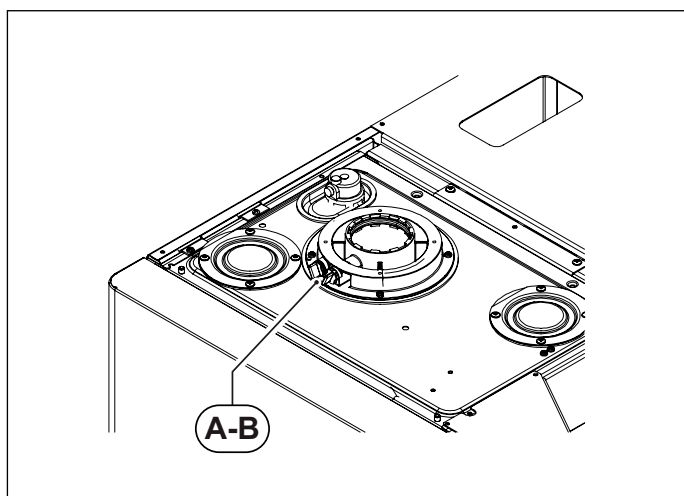
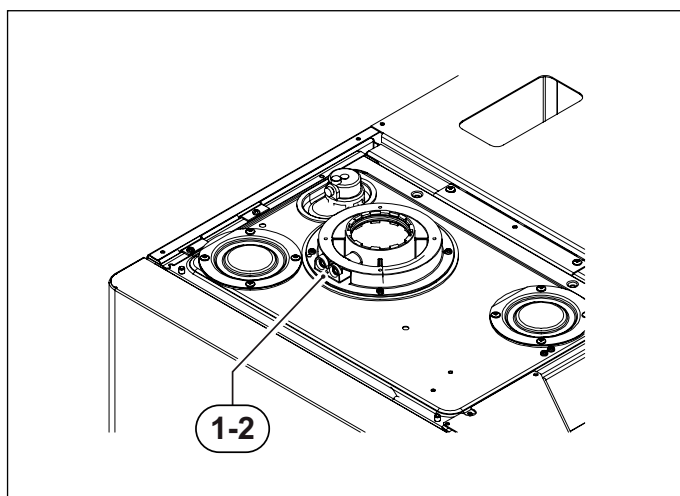

Fig. 15 Plugs position
Fig. 16 Hole position
The boiler is equipped with a tower allowing for air intake/flue gas venting pipe connection (see Fig. 15 Plugs position and Fig. 16 Hole position).
The tower is designed with two pre-arranged openings directly accessing air and flue gas ducts (see Fig. 15 Plugs position).
Remove caps **A** and **B** from the pre-arranged openings on the tower, before starting combustion checking procedure (see Fig. 15 Plugs position).
- assess combustion air from opening **1** (see Fig. 16 Hole position).
- assess flue gas temperature and CO2 from opening **2** (see Fig. 16 Hole position).